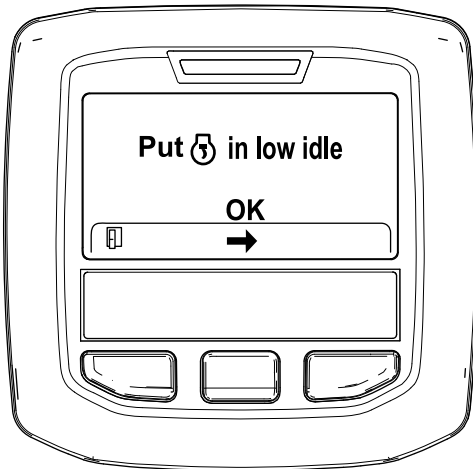

Figure 34
6. Move the throttle control to LOW IDLE and press the center button (Figure 34).